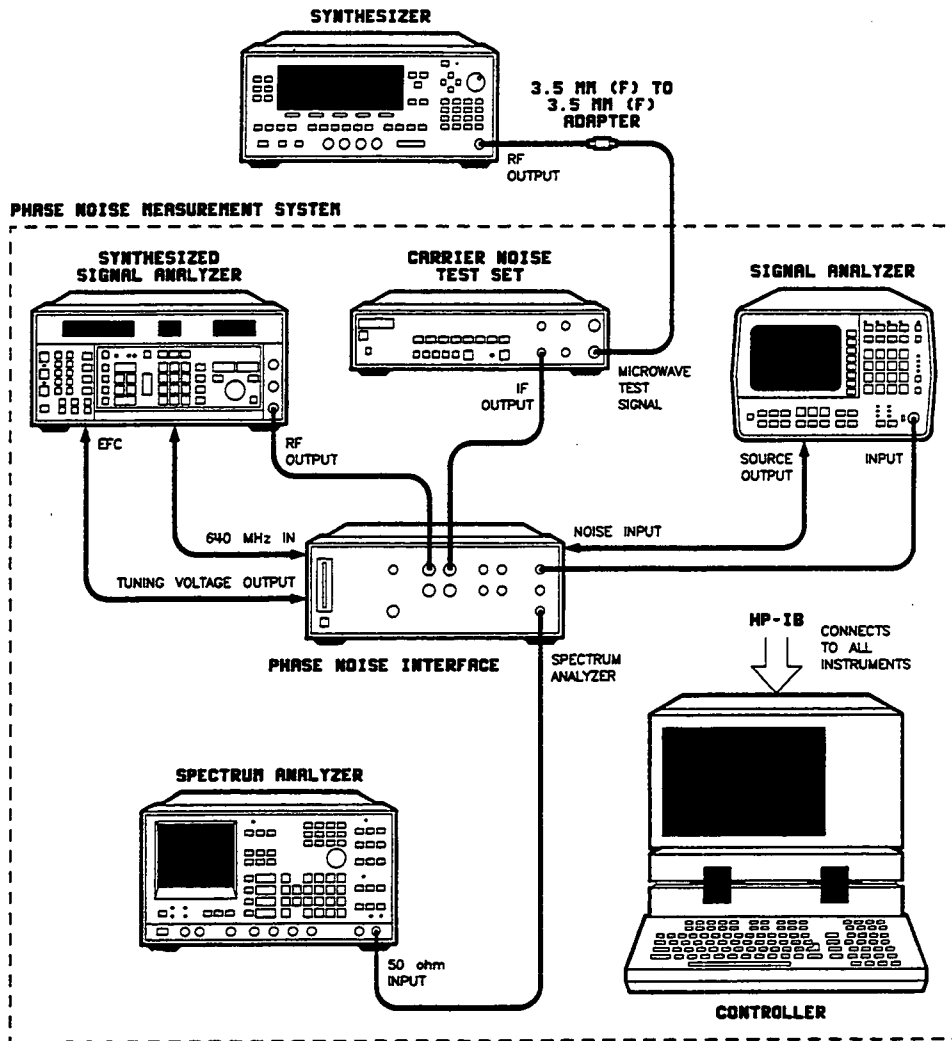

Figure 2-12. Single Sideband Phase Noise Test Setup
1. Connect the equipment as shown in figure 2-12. Preset the equipment and let them warm up for at least one hour.